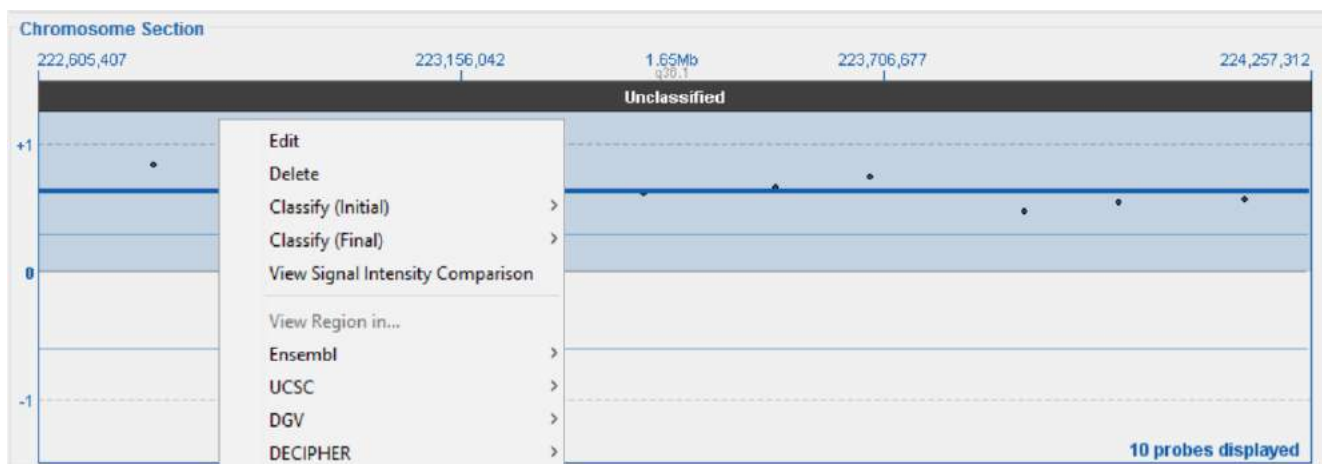

Figure 5: Chromosome Section of Genomic View showing a detected CNVs and the CNV right-click menu options.
- Use the zoom in and out buttons at the top left of the right side panel (Figure 5).